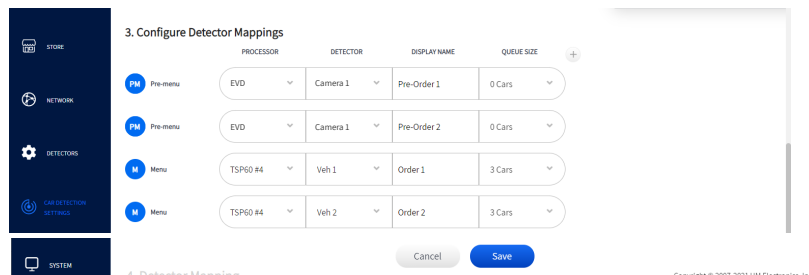

Fig. 7.5
- Scroll down to **Configure Detector Mappings**. You will see the Pre-Menu EVD detectors included. See top two rows of Fig. 7.5. Click the Save button to save your change.